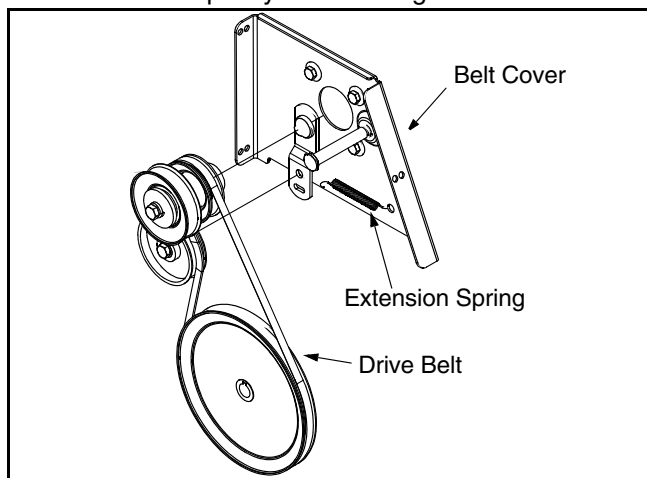

Figure 22
- Unhook the extension spring from the belt cover plate. See Figure 22.
- Remove drive belt from the engine pulley and bottom drive pulley. Refer to Figure 22.